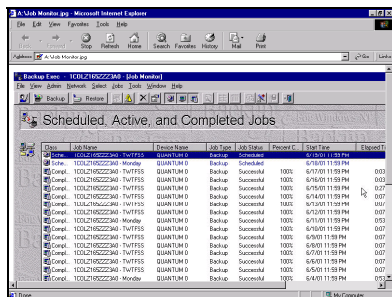

FIGURE XI.3
- 6) Select the "Job Monitor" tab and observe Labeled Media is "Running" in "Job Status" column. Once tape has completed "Running", the "Job Status" column will default to "Scheduled" for that assigned date. (see figure XI.3) Close all open windows; return to desktop and log off server.